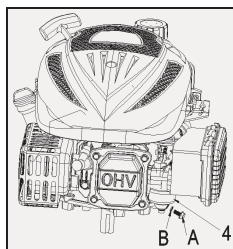
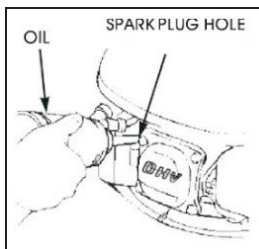

Fig. 13A
Fig. 13B
3. After all the fuel has drained into the container; reinstall the drain bolt and washer. Tighten the drain bolt securely. (See Fig. 13A/ Fig.13B)